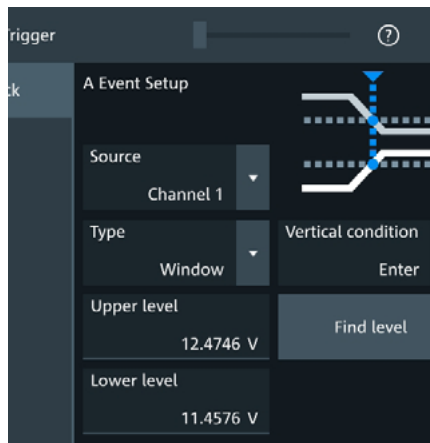

Figure 3: Trigger event A window
- Define trigger A as window type, including upper and lower level, to catch the end of the soft start during startup (see Figure 3)
None of the topologies discussed are simple to design, with high voltages and currents at play during testing. However, the repeated circuit elements within these topologies offer a chance to use modularity as a means of rapidly evaluating different approaches. For example, the input inductors, single bridge legs, and the output capacitor can be isolated within the circuit of a PFC. Input and output voltage and current measurement, along with control of the SiC MOSFETs, can then be assigned to a fourth element performing system control. For this purpose, a microcontroller dedicated to digital power converter applications is ideal (Figure 3).
Figure 3: The PFC can be broken down into an input inductor, an output capacitor, bridge-leg, and a control block. Many blocks also find use in DC/DC converters and motor inverters.